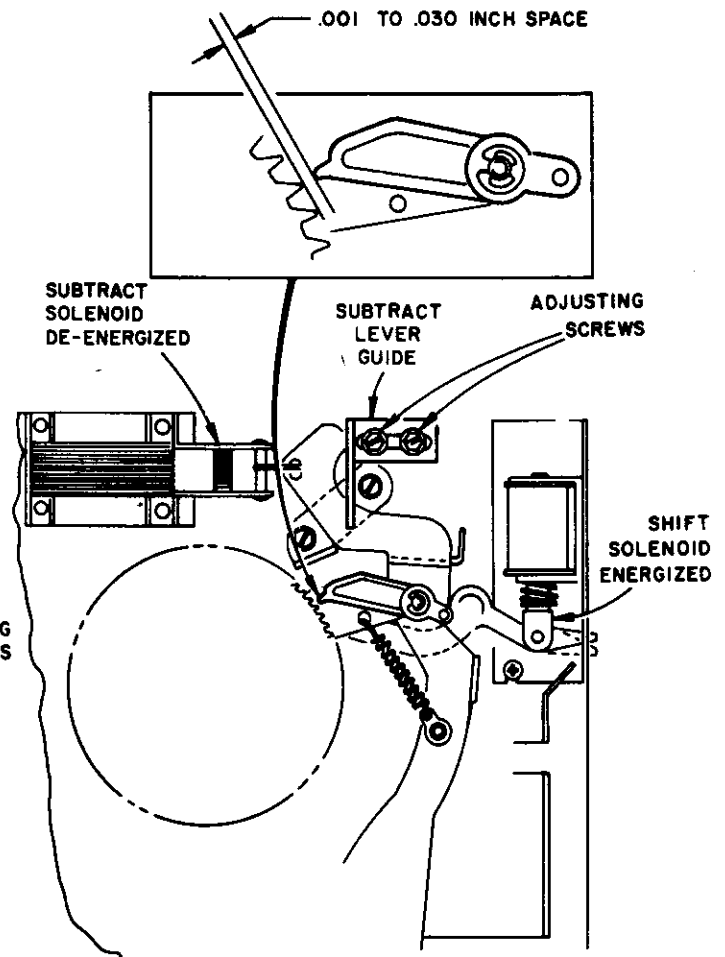

Figure 9. Subtract Lever Guide Adjustment Detail.
2. Refer to Figure 9. With the shift solenoid energized and the subtract solenoid de-energized, adjust the subtract lever guide so the subtract pawl clears the credit ratchet wheel by .001 to .030 inch.